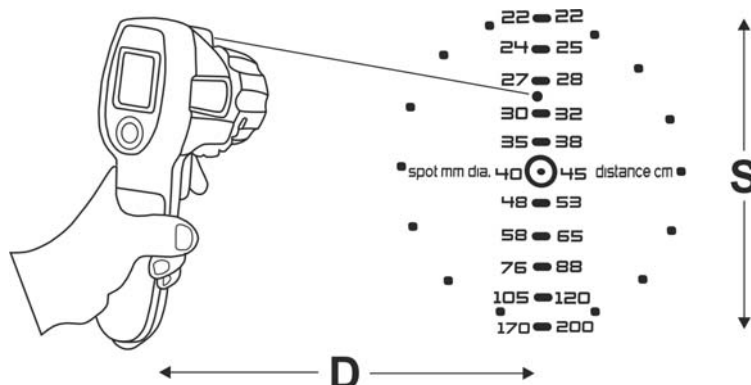

Fig. 16: Definition of Distance / Spot ration
- Bring the instrument further or closer to the target, paying attention to the progressive increase or decrease of the which can be detected according to the reference numerical values indicated on the side of the instrument (see Fig. 16).